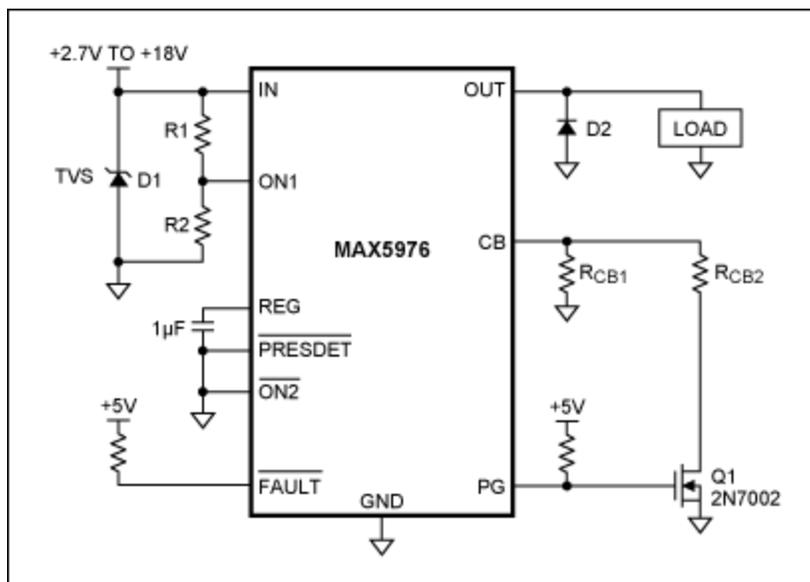

Figure 1. PG output controls an external transistor to reduce the overcurrent limit after startup.
To solve this problem, a simple inverting scheme employs the load switch's open-drain power-good output (PG) to connect a second current-limit configuration resistance in parallel after startup. This design (**Figure 1**) reduces the current available to the load after startup is complete. During startup, while the output voltage is below the input, the PG output pulls low and the current limit is set by  $R_{CB1}$ . After the output rises and the 16ms power-good delay elapses, the PG output goes high impedance. This allows the gate of Q1 to rise, connecting the second resistor,  $R_{CB2}$ , in parallel with  $R_{CB1}$  and reducing the overcurrent threshold.